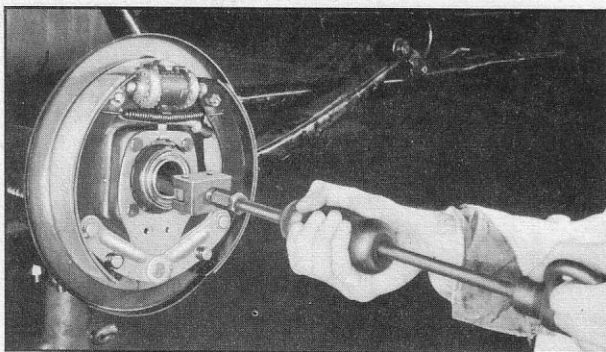

Fig. 11—Removing Axle Shaft Bearing and Seal
1. Insert special bearing puller J-1436 and remove bearing, bearing retainer and oil seal (fig. 11).